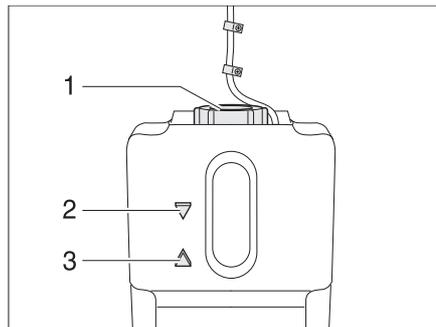

Fig. 172 Compensator reservoir hot-water heater
- Check if the fluid level is between the marks "MIN" (Fig. 172,3) and "MAX" (Fig. 172,2) on the compensator reservoir (Fig. 172).
- Unscrew the screw cap (Fig. 172,1) at the compensator reservoir.